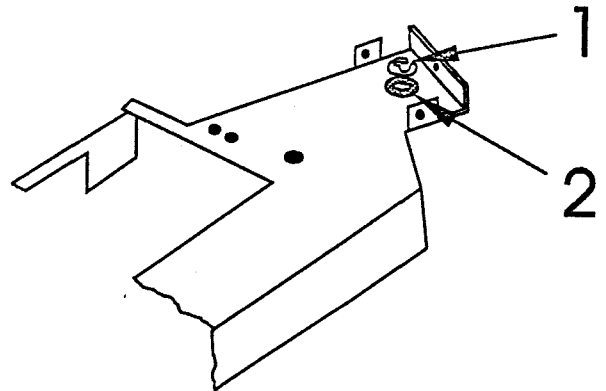

Fig. 2
- Remove retaining ring from hollow shaft at lid arm pusher shaft (Fig. 2, Pos. 1).
- Take out shim washers from hollow shaft and keep them (Fig. 2, Pos. 2).